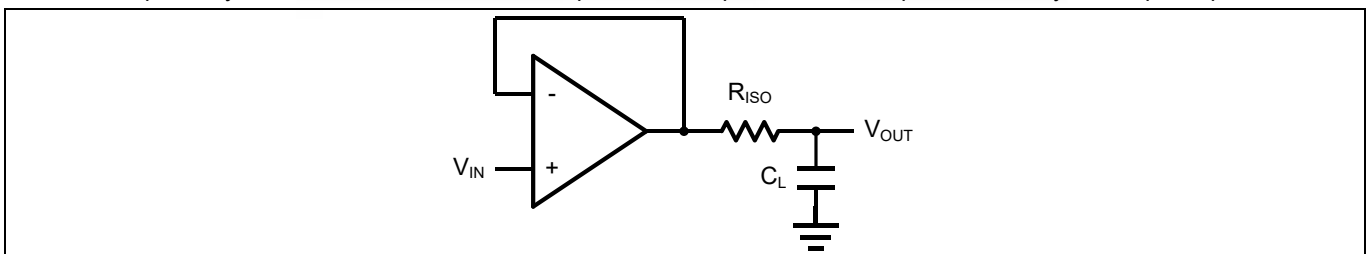
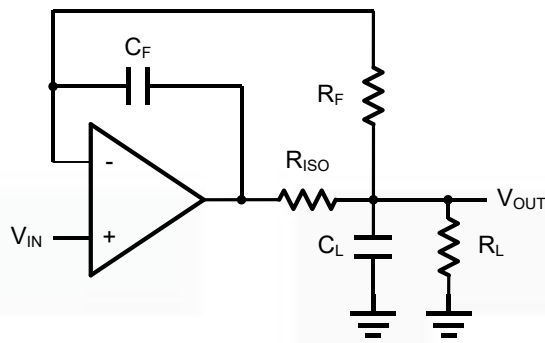

Figure 2 Indirectly Driving a Capacitive Load Using Isolation Resistor
Figure 3. Indirectly Driving a Capacitive Load with DC Accuracy
The GS6012A/GS6014A is optimized for bandwidth and speed, not for driving capacitive loads. Output capacitance will create a pole in the amplifier's feedback path, leading to excessive peaking and potential oscillation. If dealing with load capacitance is a requirement of the application, the two strategies to consider are (1) using a small resistor in series with the amplifier's output and the load capacitance and (2) reducing the bandwidth of the amplifier's feedback loop by increasing the overall noise gain. Figure 2 shows a unity gain follower using the series resistor strategy. The resistor isolates the output from the capacitance and, more importantly, creates a zero in the feedback path that compensates for the pole created by the output capacitance.
The circuit in Figure 3 is an improvement to the one in Figure 2. R_F provides the DC accuracy by feed-forward the V_{IN} to R_L . C_F and R_{ISO} serve to counteract the loss of phase margin by feeding the high frequency component of the output signal back to the amplifier's inverting input, thereby preserving the phase margin in the overall feedback loop. Capacitive drive can be increased by increasing the value of C_F . This in turn will slow down the pulse response.